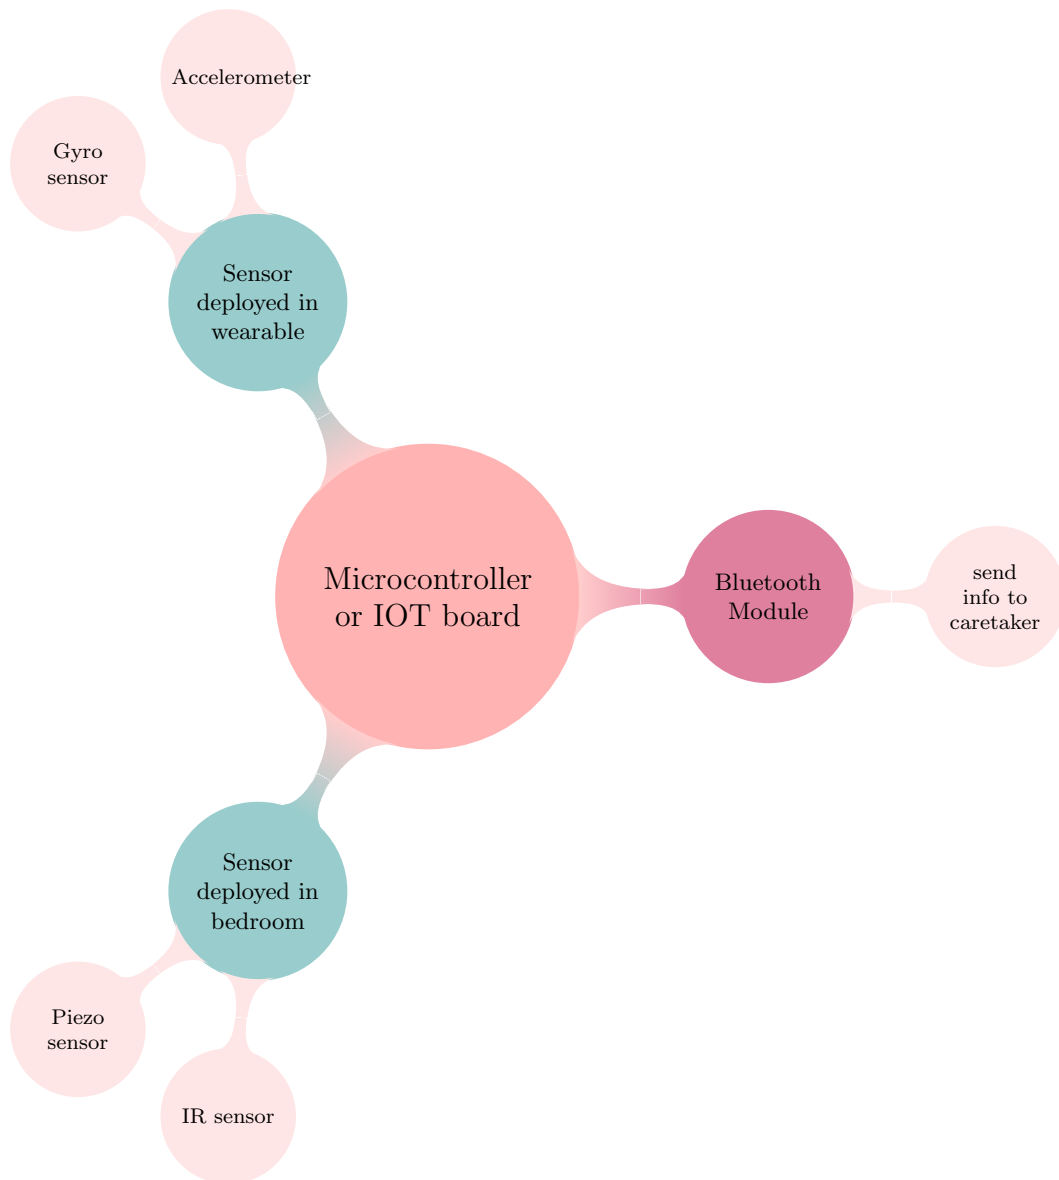

Figure 5.7: Transmitter of fall detection system
- (l) Transmitter of fall detection system is shown in figure 5.7